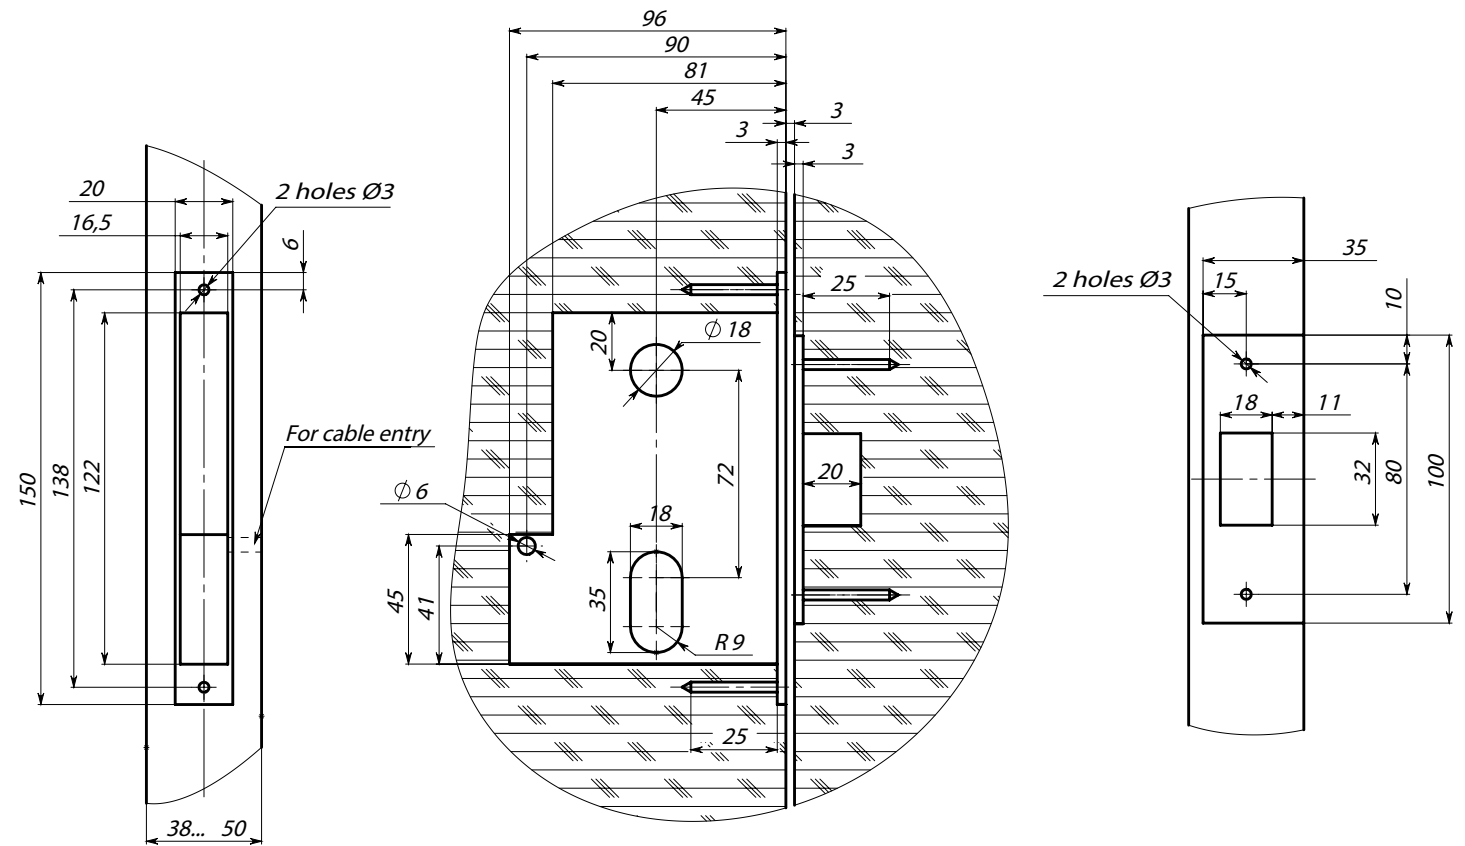

Fig. 3. LC-72.4 electromechanical lock installation layout
Making of holes in the door leaf for installing the lock (1), lock cylinder, door lever, forend and strike plate (8) in the door frame should be made according to Fig. 3 and installation template from the delivery set.
1) Make the carving in the door according to the marking (measures given in Fig. 3);
- 9) Mounting of the strike plate (8) should be made in the following order:
- make the carving in the door frame according to Fig. 3;
- mount the strike plate (8) into the door frame providing 1.5 – 3 mm spacing between the strike plate and the forend (2) when the door is closed. The channel of the strike plate (Fig. 3) must lay symmetrical to bolt's cross section;